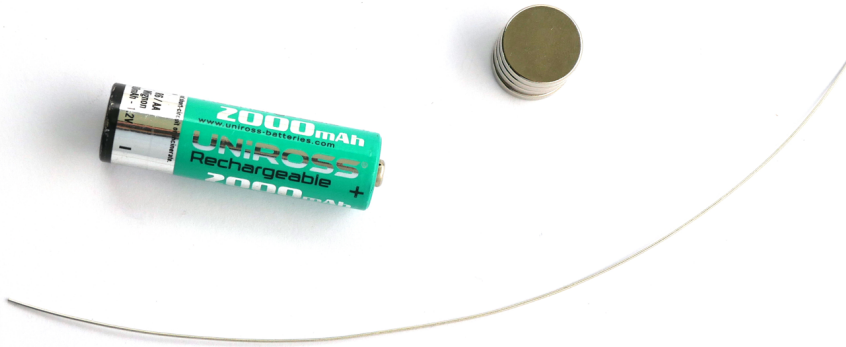

Figure 5-3 The parts you'll need to make a homopolar motor
You'll need the following (see Figure 5-3):
1. Place the disc magnet onto a nonmetallic tabletop. Stacking multiple magnets on top of each other (as I have done in Figure 5-3) will make your motor a bit easier to assemble.